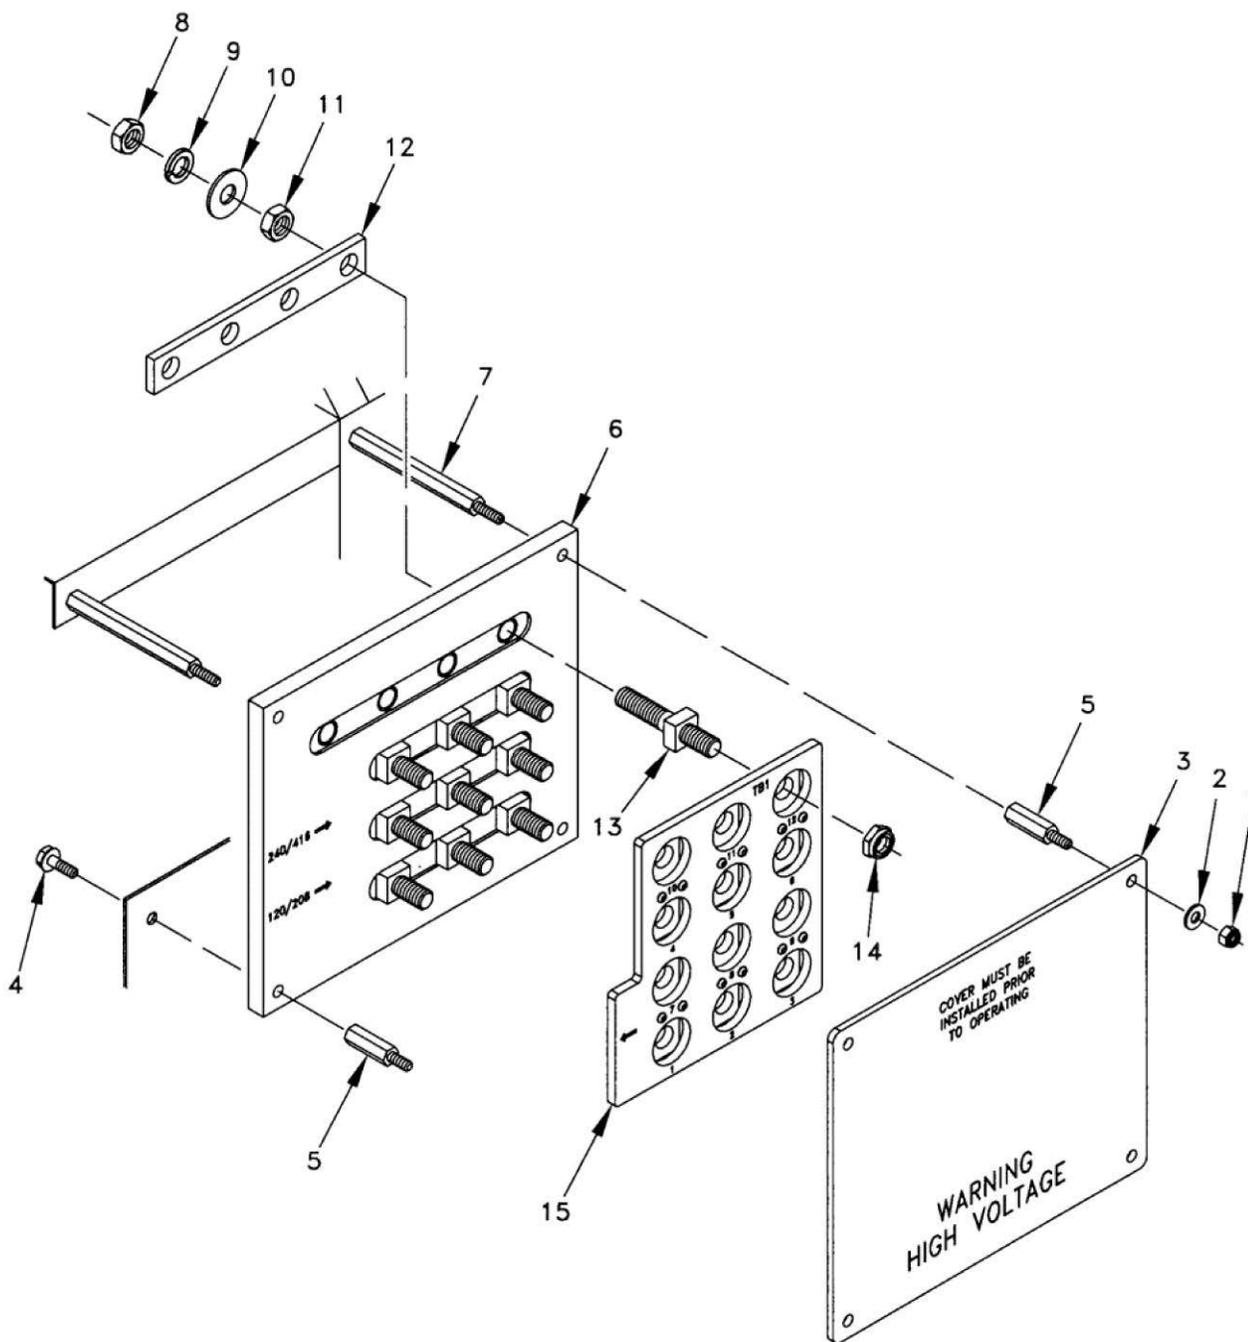

Figure 1. Reconnection Terminal Board Assembly.
3. Remove four locknuts (Figure 1, Item 1), four washers (Figure 1, Item 2), and protective cover (Figure 1, Item 3).
- Remove two screws (Figure 1, Item 4) and four standoffs (Figure 1, Item 5), and pull reconnection terminal board assembly (Figure 1, Item 6) away from its lower mounting and from two standoffs (Figure 1, Item 7).
- Remove 13 jam nuts (Figure 1, Item 8), lock washers (Figure 1, Item 9), and washers (Figure 1, Item 10), and tag and disconnect wires from rear of reconnection terminal board assembly (Figure 1, Item 6).
6. Remove 13 jam nuts (Figure 1, Item 11), bus bar (Figure 1, Item 12), 13 studs (Figure 1, Item 13), 13 locknuts (Figure 1, Item 14), and moveable terminal board (Figure 1, Item 15).
1. Install moveable terminal board (Figure 1, Item 15) on terminal board assembly (Figure 1, Item 6), and secure with 13 locknuts (Figure 1, Item 14), 13 studs (Figure 1, Item 13), bus bar (Figure 1, Item 12), and 13 jam nuts (Figure 1, Item 11). Torque jam nuts to 30 ft•lbs (40 N•m), and locknuts to 20 ft•lbs (27 N•m).
2. Remove tags and connect wires to rear of reconnection terminal board assembly (Figure 1, Item 6), and secure with 13 washers (Figure 1, Item 10), lock washers (Figure 1, Item 9), and jam nuts (Figure 1, Item 8). Torque jam nuts to 30 ft•lbs (40 N•m).
3. Position reconnection terminal board assembly (Figure 1, Item 6) on its lower mounting and two standoffs (Figure 1, Item 7), and secure with four standoffs (Figure 1, Item 5) and two screws (Figure 1, Item 4).
4. Install protective cover (Figure 1, Item 3) and secure with four washers (Figure 1, Item 2) and locknuts (Figure 1, Item 1).